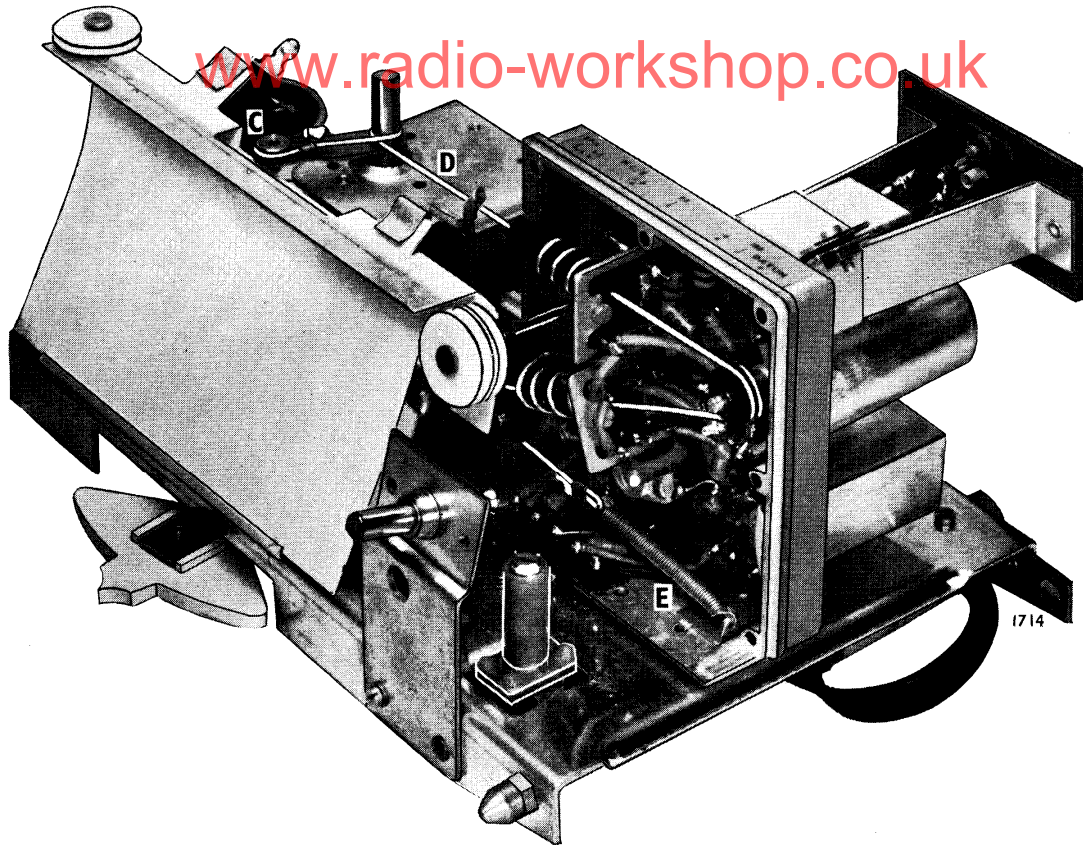

Fig. 7—VHF Cord Drive
- (5) Unbolt and remove the drive drum.
- (6) Remove cord from around the brass boss (C—Fig. 7).
- (1) Remove chassis from cabinet (see page 6).
- (2) Unbolt and remove the side of the V.H.F. box nearest to the front of the chassis.
- (3) Set the tuning capacitor to minimum to ease tension on the return spring (E—Fig. 7) in the V.H.F. box.
- (7) Unbolt and remove the drive drum.
- (8) Thread assembly of tuning cores (D—Fig. 7) through coil formers and hook the spring (E—Fig. 7) to its anchorage.
(9) Now take one turn in a clockwise direction around the tuning capacitor spindle and slip the loop in the cord over the brass boss (C—Fig. 7).
(10) After reassembly, check that the auxiliary pointer coincides with the datum indent when the tuning capacitor is at maximum capacity.
(11) Reset pivoted adjuster as laid down in the Alignment Procedure (V.H.F.).